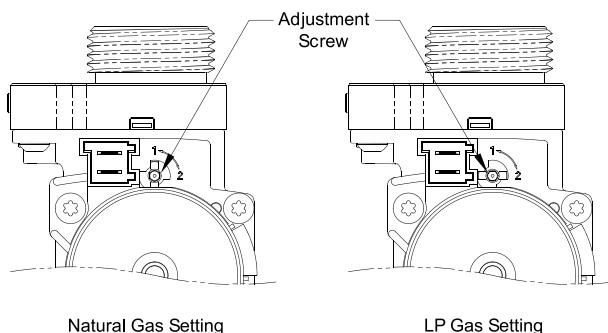

Figure 15-3: Gas Valve Fuel Setting
1. Use 2.5 mm hex wrench to adjust gas valve setting from "1" to "2" (Figure 15-3).